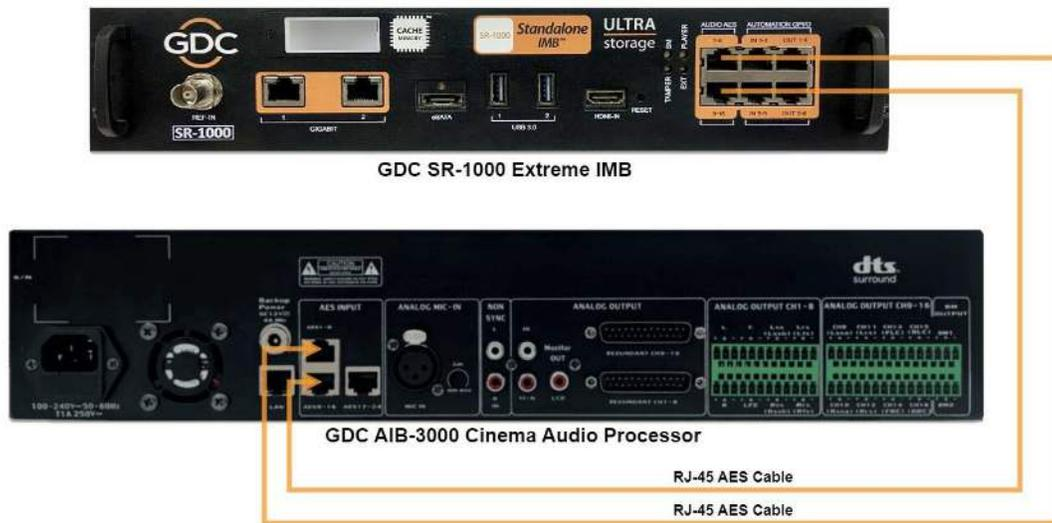

Figure 7: SR-1000 Extreme with AIB-3000
To connect the GDC SR-1000 IMB or GDC SR-1000 Extreme IMB to the AIB-3000, connect the AUDIO AES ports on the IMB (**A-TOP** for 5.1/7.1 configuration OR **A-TOP** and **A-BOT** for 15.1 configuration) to the AIB-3000 AES Input ports (**④a @ Rear Panel; AES1-8** for 5.1/7.1 configuration OR **AES1-8** and **AES9-16** for 15.1 configuration) using good quality CAT5e (or greater) shielded Ethernet cables. For best results, use the cables provided as part of standard SR-1000 packaging **Figure 7** shows an example where the SR-1000 Extreme IMB is connected to an AIB-3000.